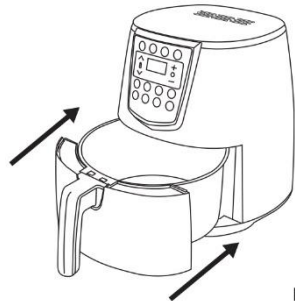

FIGURE 4
4. Slide Drawer Pan (3) back into the Main Body. (see Figure 4)